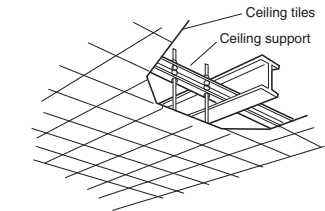

Fig. 3-18
- Use existing ceiling supports or construct a suitable support as shown in Fig. 3-18.